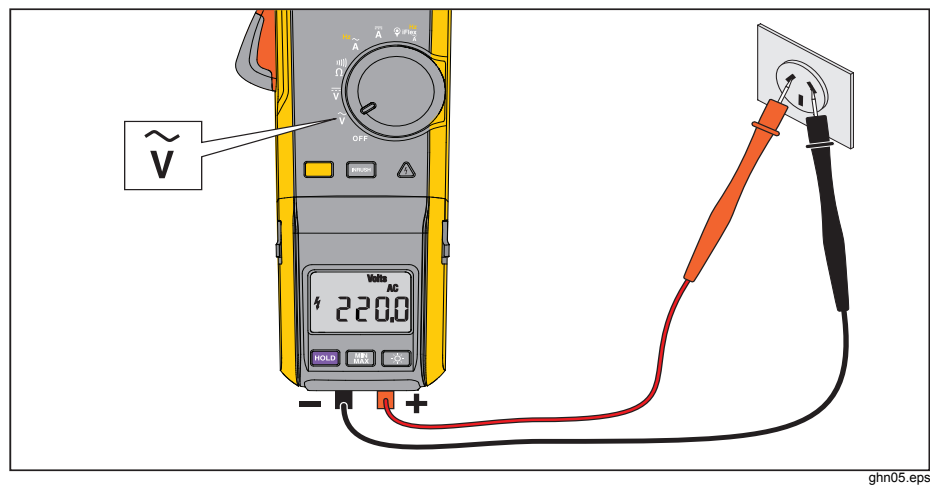

Figure 6. Measurement with Test Leads (AC Voltage Shown)
2. Connect the black test lead to the **COM** terminal and the red test lead to the **VΩ** terminal. See Figure 6.